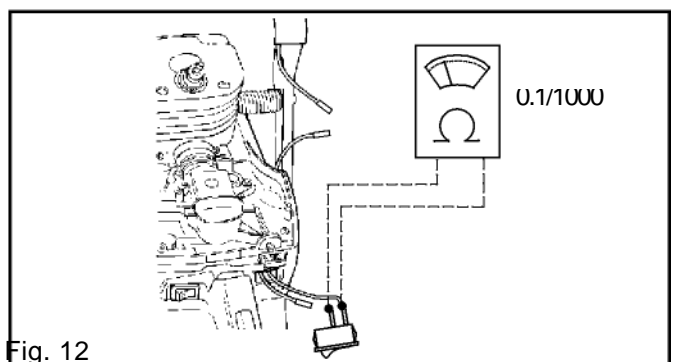

Fig. 12
7. Disconnect one of the connections to the on/off switch and connect the ohmmeter as shown in fig. 12. The meter should read more than 1000 with the switch in the "0" position.